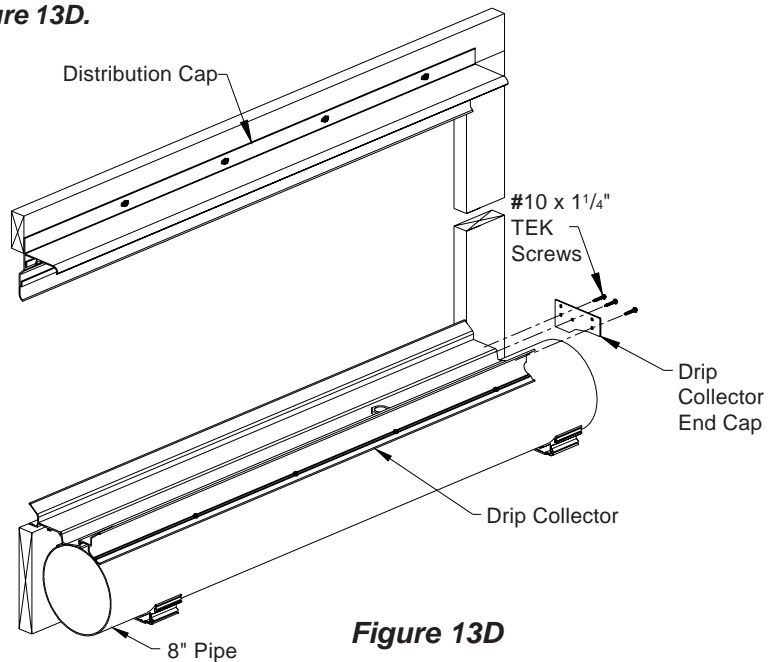

Figure 13D
17a) On right side of system apply PVC cement to end of drip collector and line up the 3 holes in the drip collector end cap to the 'U' Channels in the drip collector, fasten using (3) #10 x 1/4" TEK screws (provided). **See Figure 13D.**
17b) Slide right end panel into framing and into drip collector on right end. End panel should fit snug, make sure ribs sit down tight into the drip collector. Fasten the last 2 screws into the drip collector end cap using (2) 10 x 1/4" TEK screws. **See Figure 13D.**